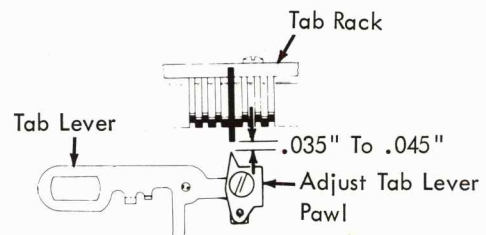

FIGURE 163. Tab Lever Pawl
5. Tab Lever Pawl (Fig. 163) - Adjust the pawl forward or back on the tab lever so that the tip of the pawl clears a set tab stop by  $.035''$  to  $.050''$ . This adjustment should be checked on the left, center, and right of carrier travel.